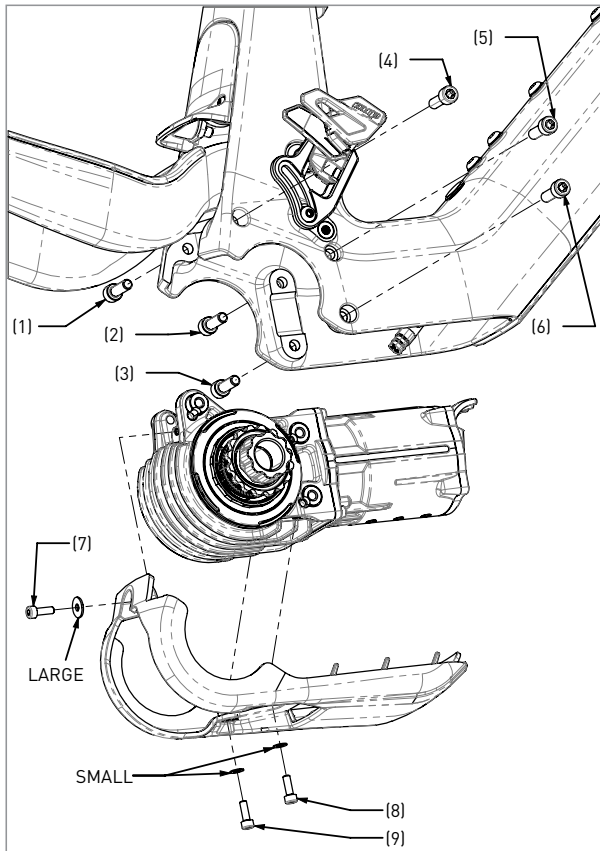

Figure 14
5. Remove the rear wheel to gain access to the rear mounting screw for the lower frame cover. Remove the three M4 screws holding the lower frame cover to the motor (#7-9 in Figure 14), using a 3mm hex key. Take care to not lose the washers used at each bolt location.
6. Remove the six DU mounting screws (#1–6 in Fig. 14) using a Torx T30 socket and socket wrench. Caution: the drive unit is heavy and will fall out once drive unit bolts are uninstalled.
- After the DU has been aligned and all six mounting screws loosely threaded, tighten screws #1–6 in numerical order as shown in Fig. 14 to 14Nm each. The left-side screws should be tightened first, and right-side screws last.